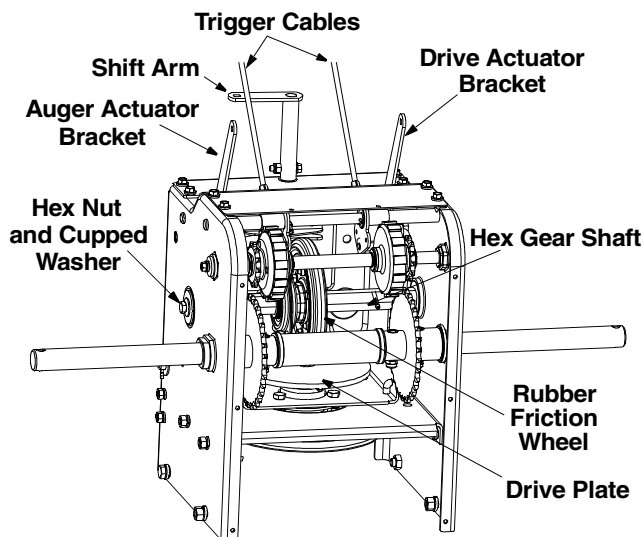

Figure 11
- With the traction control lever engaged, make sure the friction wheel solidly contacts the drive plate. Refer to Figure 11.
Lubricate the gear shaft with 6-in-1 grease (part number 737-0170) at least once a season, or after every 25 hours of operation. Refer to Figure 11.
At least once a season or after every 25 hours of operation, remove rear cover. Lubricate any chains, sprockets, gears, bearings, shafts, and the shifting mechanism at least once a season. Refer to Figure 11. Use engine oil or a spray lubricant. Avoid getting oil on rubber friction wheel and aluminum drive plate.